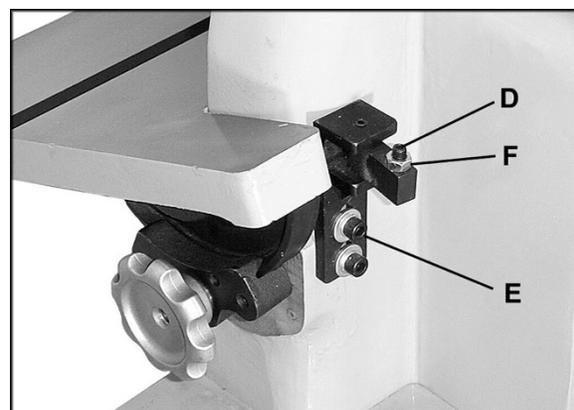

Figure 17
A zero-degree stop screw (D, Figure 17) is located behind the disc. The block should be set for quick placement of the table to the zero position (90 degree table). The block must be swung out of position for the table to be tilted downward. If major adjustment of the zero-degree stop is necessary, loosen the socket head cap screws (E) and raise or lower the bracket. For fine adjustment, loosen the hex nut (F) and turn the stop screw (D) in or out as needed. Re-tighten hex nut (F).